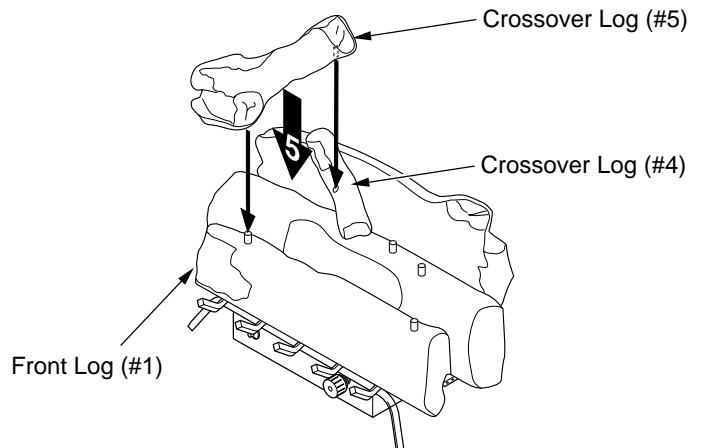

Figure 28 - Installing Crossover Log #5 (CCL3930PTB/NTB Shown)
- For CCL3924PTA/NTA and CCL3930PTB/NTB Only:** Locate pin and hole on the bottom of crossover log (#5). Slide the pin into the hole located in crossover log (#4). Slide the hole onto the pin on front log (#1). See Figure 28.